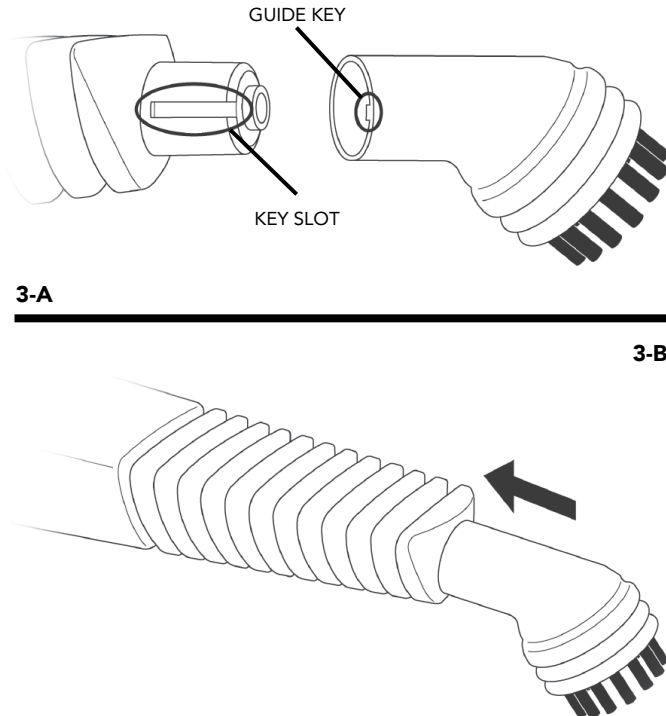

FIGURE 3
NOTE: The Nylon Utility Brush, Brass Utility Brush and Large Brush are all attached in the same manner. The Nylon Utility Brush is illustrated in FIGURE 3 as an example.
1. Align Brush with Jet Nozzle as shown. Guide key on back of Brush should line up with key slot on side of Jet Nozzle tip (FIGURE 3-A).
2. Firmly press Brush onto Jet Nozzle (FIGURE 3-B).